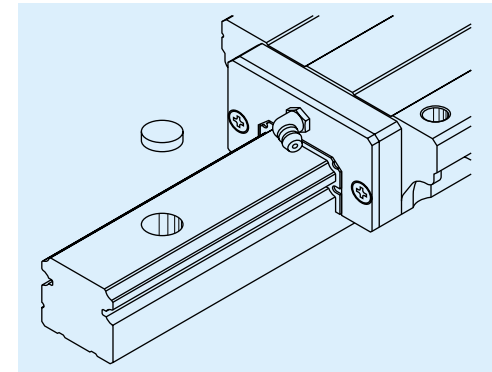

Fig. II-5-6
(3) Cap to cover the bolt hole for rail mounting
- After the rail is mounted to the machine base, a cap is used to cover the bolt hole to prevent foreign matters from clogging up the hole or from entering into the ball slide (Fig. II-5-6).